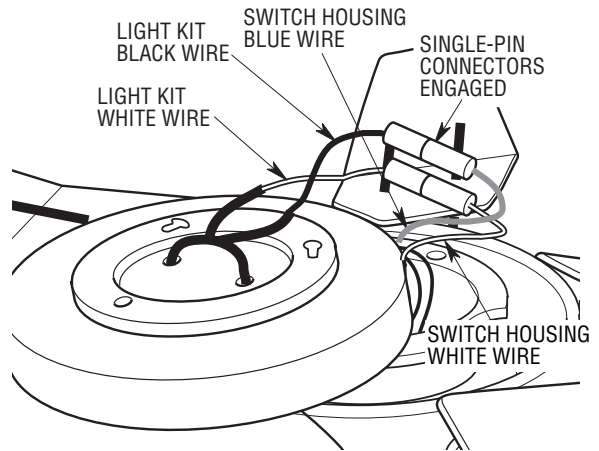

Figure 7
- 12. Connect the switch housing blue wire single-pin connector to the black wire single-pin connector from the light kit assembly; connect the switch housing white wire single-pin connector to the white wire single-pin connector from the light kit assembly (Figure 7). Be sure all wire connectors are fully engaged.